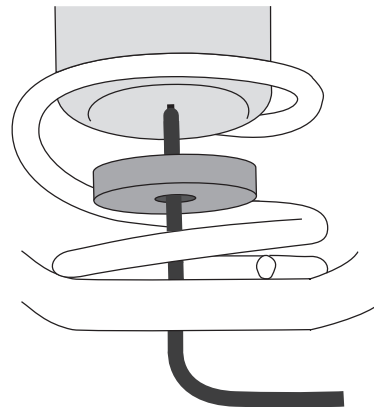

fig. C.5
2. Install coil spring and air cylinder assembly, placing it on the lower spring seat first with air line going through lower protector and control arm (Fig. C.5). Push the top of coil into upper spring seat.